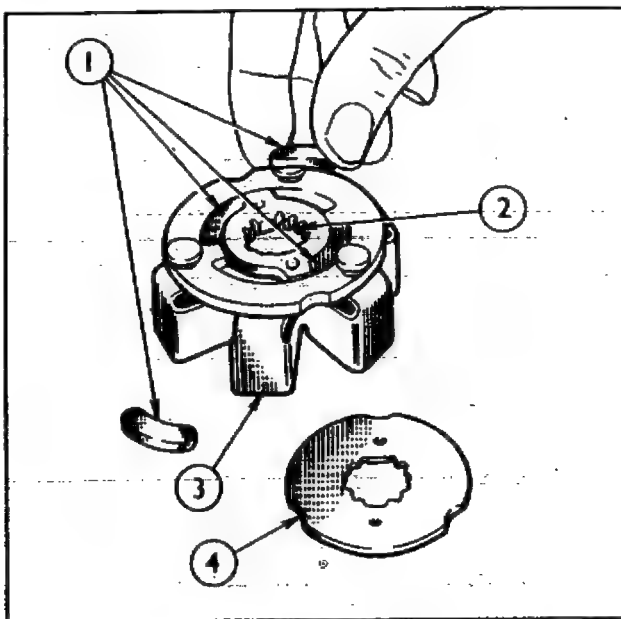

Fig. 83 1 Inserts 3 Weight Carrier
2. Assemble the cush drive. Locate the hub in the reverse side of the weight carrier, the reduced diameter being towards the weights and fit two inserts diametrically opposite to one another in the space between the hub and the retainer ring (see Fig.83). Turn the hub until the ears are touching the inserts and fit the other two inserts. Align the scallops in the periphery of the back plate with the rivets and locate in position. Turn the plate until the master splines are in alignment with the splines in the hub.